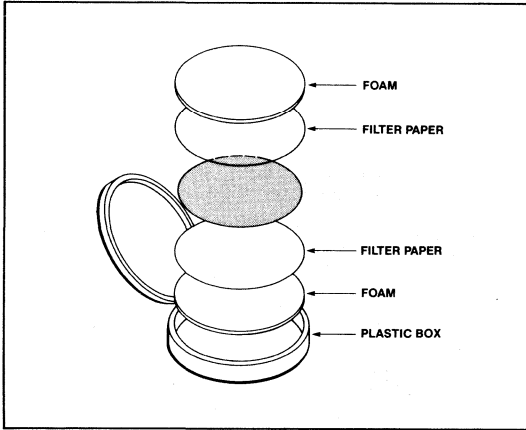

Figure 1. Wafer Carrier Package
- Die and wafers are packaged as shown in Figures 1 and 2, respectively.